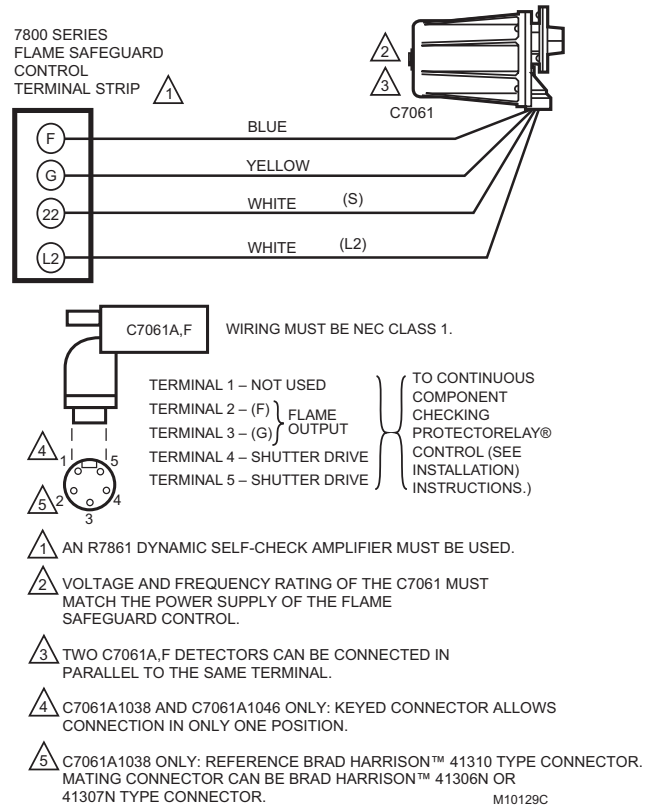

Fig. 10. Wiring diagram for C7061A,F Detectors with 7800 Series Flame Safeguard controls with shutter drive circuitry.
WIRING (FIG. 10)
7. Refer to Fig. 10 for wiring connections.
It is suggested that a volt-ohm meter with a minimum sensitivity of one megohm/volt and a zero to five or ten Vdc scale be used for R7861 Amplifier flame signal measurements. Measure the flame signal as illustrated in Fig. 10. Be careful to make the proper connections of positive (red) meter lead to positive (+) control jack and negative (black) meter lead to negative (-) or (-Com) jack with 7800 Series controls. When the 7800 Series control has a Keyboard Display Module, a zero to five Vdc voltage is displayed on the module.